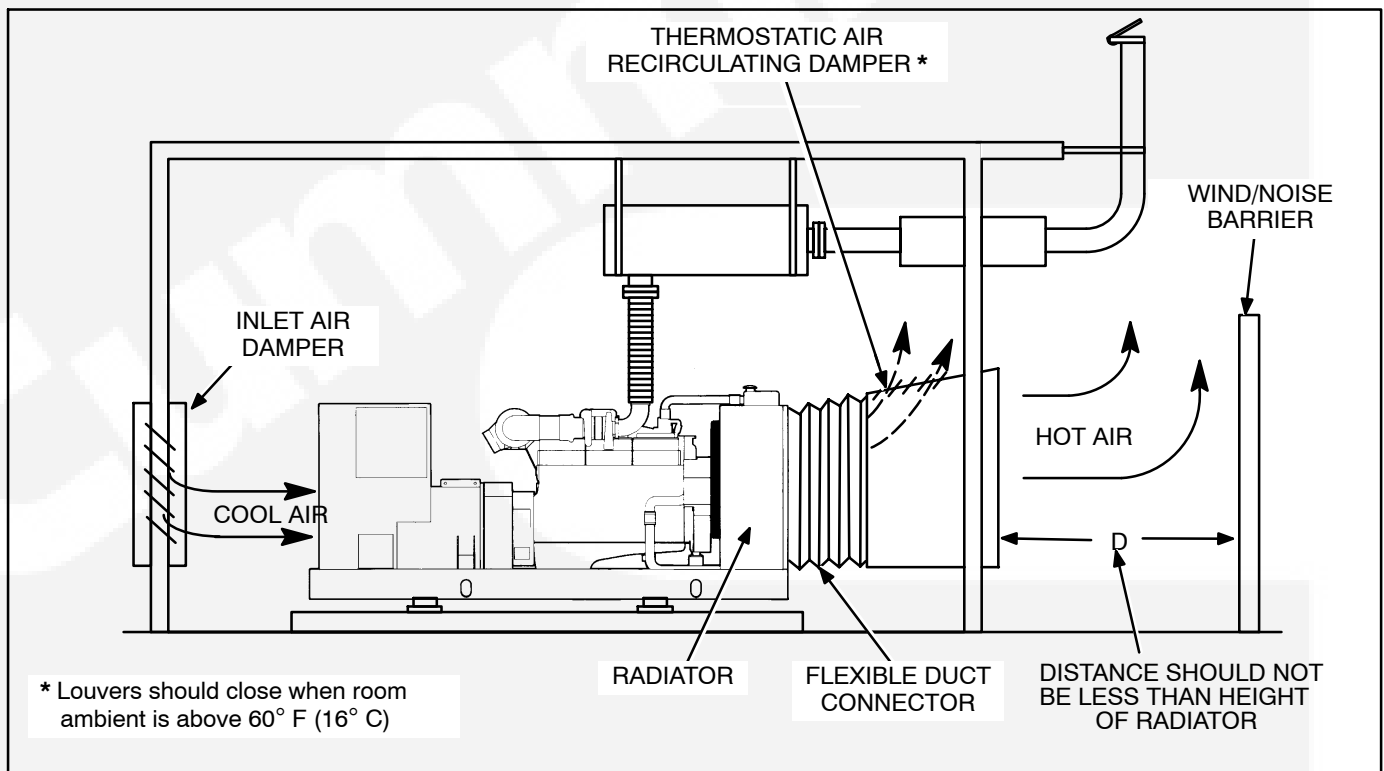

FIGURE 4-5. TYPICAL RADIATOR SET INSTALLATION
**Radiator Set Requirements:** Radiator set cooling air is drawn past the control end of the set by pusher fans that blow air through the radiator (Figure 4-5). Locate the air inlet to the rear of the set. Make the inlet vent opening 1-1/2 to 2 times larger than the radiator area.